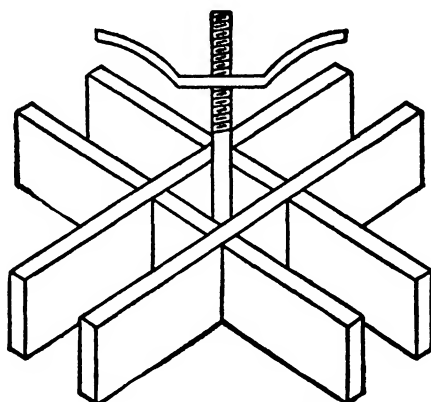

FIG. 68. Rack for fastening down wheel to prevent too much dish.
6. If the wheel is loose in the hub and has too much dish, saw out more of the rim, usually from  $1/16''$  to  $1/8''$ , the amount depending upon how much you think the spokes can be driven into the hub. Place on a wheel rack (Fig. 68) so that the wheel may be screwed down to prevent too much dishing. Screw down until pressure is on the hub and the rim is resting firmly on the frame.